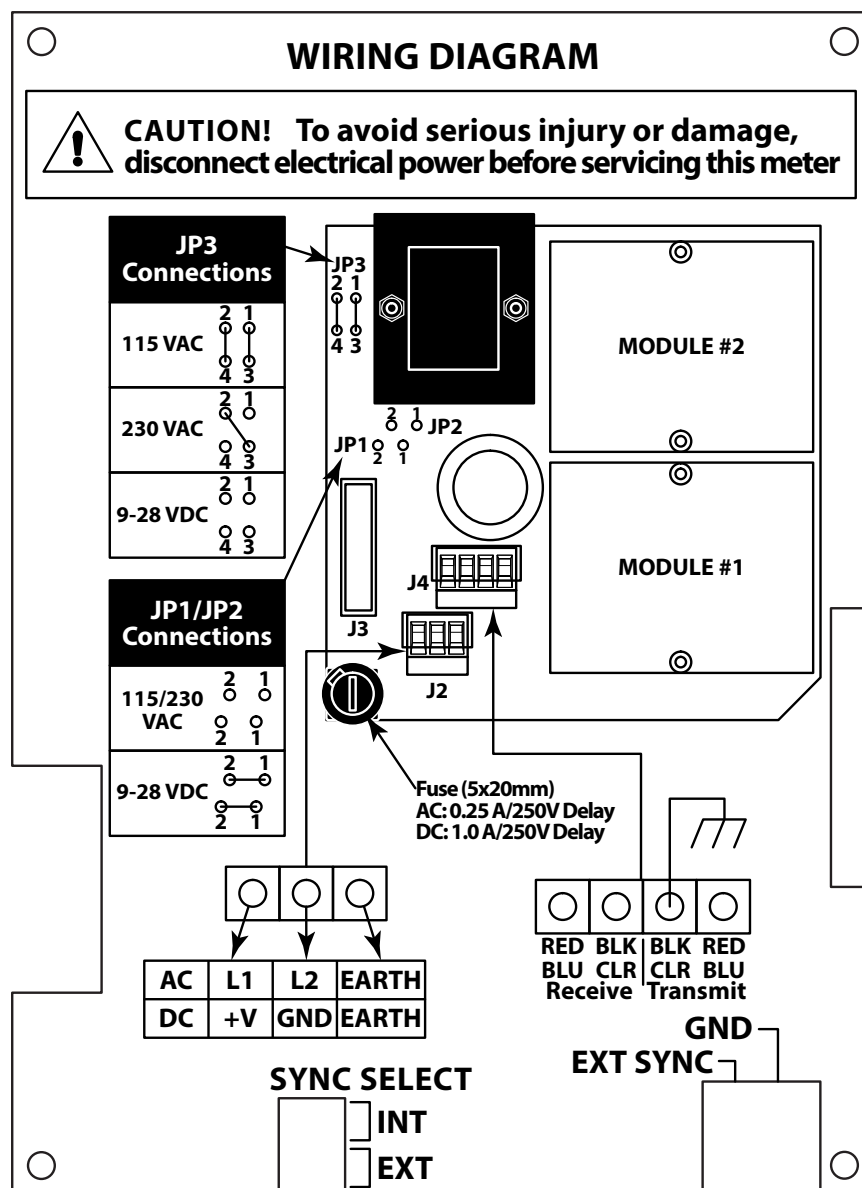
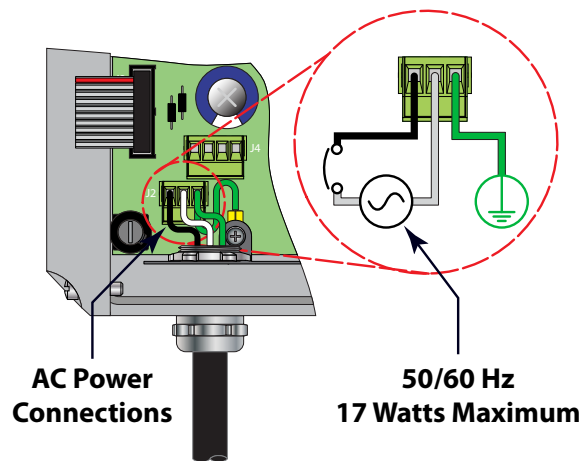

Figure 15: DFX flow meter wiring diagram
Figure 16: DFX flow meter AC power connection
Connect power to the screw terminal block marked J2 through the conduit hole on the left side of the enclosure. See *Figure 15* for AC power supplies and *Figure 16* for DC power supplies. Use wiring practices that conform to local and national codes (for example, The National Electric Code Handbook in the U.S.).
1. Verify that the jumpers at JP3 are properly oriented for the power supply. See *Figure 15*.
3. Connect L1, L2 and EARTH to the terminals referenced in *Figure 15*. Phase and neutral connections to L1 and L2 are not polarized. Do not operate without an earth ground connection.
4. See *Figure 16* for AC connection schematic. Wire gauges up to 14 AWG can be accommodated in the DFX flow meter's terminal blocks.
1. Verify that the jumpers are properly placed. See the wiring diagram inside the door of the DFX flow meter enclosure or see *Figure 15*. The jumpers at JP3 should not be present and the jumpers at JP1 and JP2 should be in place.
2. Daisy-chain connect the **EXT**ernal **SYN**Chronization and GND terminal blocks together between the meters to be synchronized, using the twisted-pair cable described previously. The terminal block is located on the circuit board that is mounted on the door of the meter's monitor. See *Figure 15 on page 21* or the Wiring Diagram inside the door of the DFX monitor.